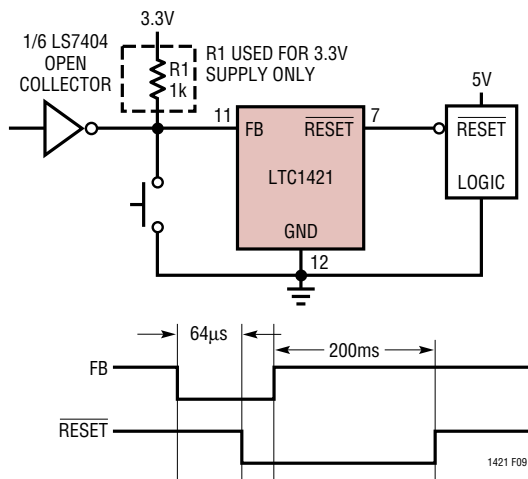

Figure 9. Generating a Soft Reset
A soft reset that doesn't cycle the supply voltage can be generated externally using Pin 11 (FB) as shown in Figure 9. For a 5V supply the FB pin is left floating to set the internal supply monitor trip voltage to 4.65V. However, if the FB pin is pulled to ground for more than 64 μ s via a push button or open-collector logic gate, the internal trip point will go to 5.88V and the $\overline{\text{RESET}}$ pin will pull low. $\overline{\text{RESET}}$ will remain low for 200ms after the FB pin is released. The $\overline{\text{RESET}}$ signal will also be pulled low when the voltage at the V_{OUTLO} pin dips below 4.65V for more than 32 μ s. When using a 3.3V supply, a 1k resistor must be connected from the FB pin to V_{CCLO} to set the internal trip point to 2.90V.